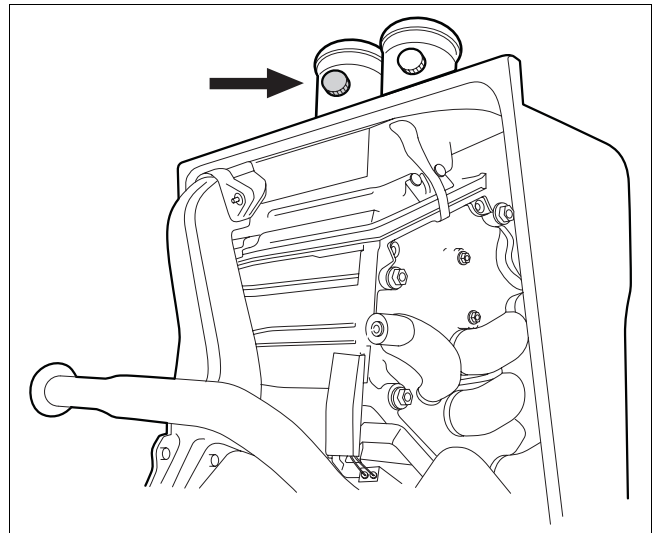

Fig. 9 Flue gas sampling point
- Measure the carbon monoxide content on the flue gas sampling point (fig. 9).